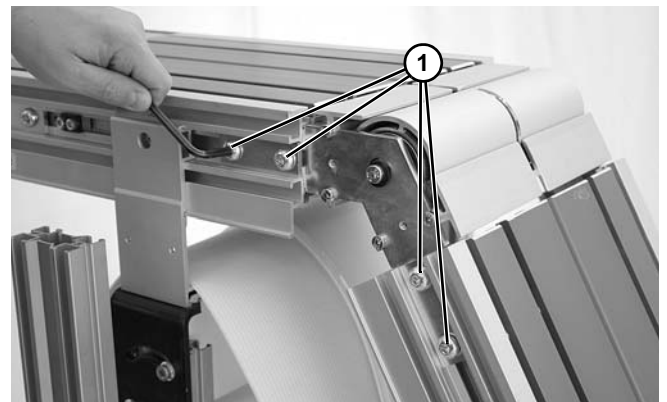

Figure 95
4. Remove knuckle assembly from conveyor by loosening 4 bolts (**Figure 95, item 1**) on both sides of conveyor.